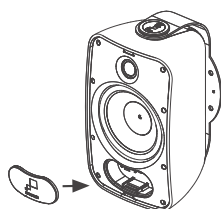

FIGURE 10:
8. Fit the wiring connector cover into the recess in the speaker's front panel. The cover should fit tightly, but can be removed and replaced if the speaker needs to be disconnected (see figure 10).